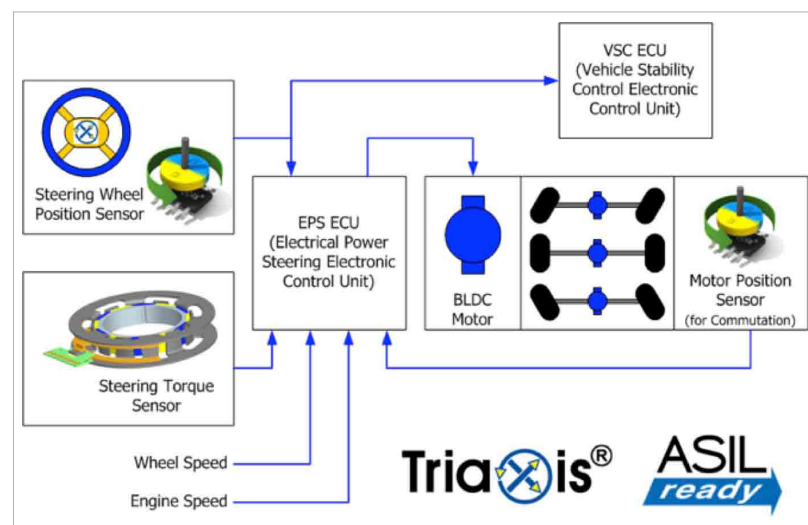

Figure 1: Typical EPS system with multiple sensors providing data to the ECU
Advances in automotive electronics are now leading to more widespread implementation of sensor ICs for the detection of magnetic fields. Devices of this kind are required for inclusion in a plethora of different control mechanisms found within modern vehicles. These include electric windows, electronic throttle, air conditioning, headlight positioning, electronic stability control (ESC), anti-lock brake systems (ABS), headrest positioning and engine management systems. One of their most important uses, however, is in electric power steering (EPS) systems (see **Figure 1**)
Inside an EPS system, magnetic sensor devices can provide the information needed for control of the mechanical torque boost, which will assist the driver with steering while the vehicle is travelling at low speeds or during parking procedures. Detection of a magnetic field and determination of its field strength (B) can be achieved using the Hall effect. This well established principle of physics describes the interaction of magnetic fields with current flow in a material. An accumulation of electrical charge resulting from this interaction will create a measurable voltage that relates proportionally to the size of the magnetic field present. Applying this principle to sensors enables many data concerning variations in position, proximity and speed to be acquired without contact being necessary and with high immunity to dirt, dust, vibration and temperature – highly suitable sensor characteristics for an automotive environment. The basic elements of an EPS system are shown in **Figure 1**. Typically three different sensing mechanisms are required. These are: the steering torque sensor - which translates the torque applied by the driver to the steering wheel into an electrical